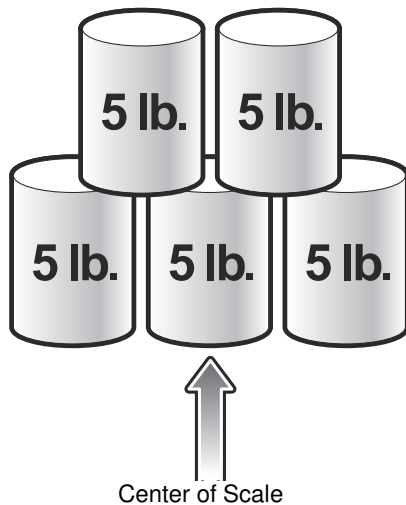

Figure 4-3 Weight Calibration Configuration for Pounds
- a. Place 25 lb weights on the scanner as shown in Figure 4-3; three 5 lb weights centered on the center of the scale, and two 5 lb weights centered on top.